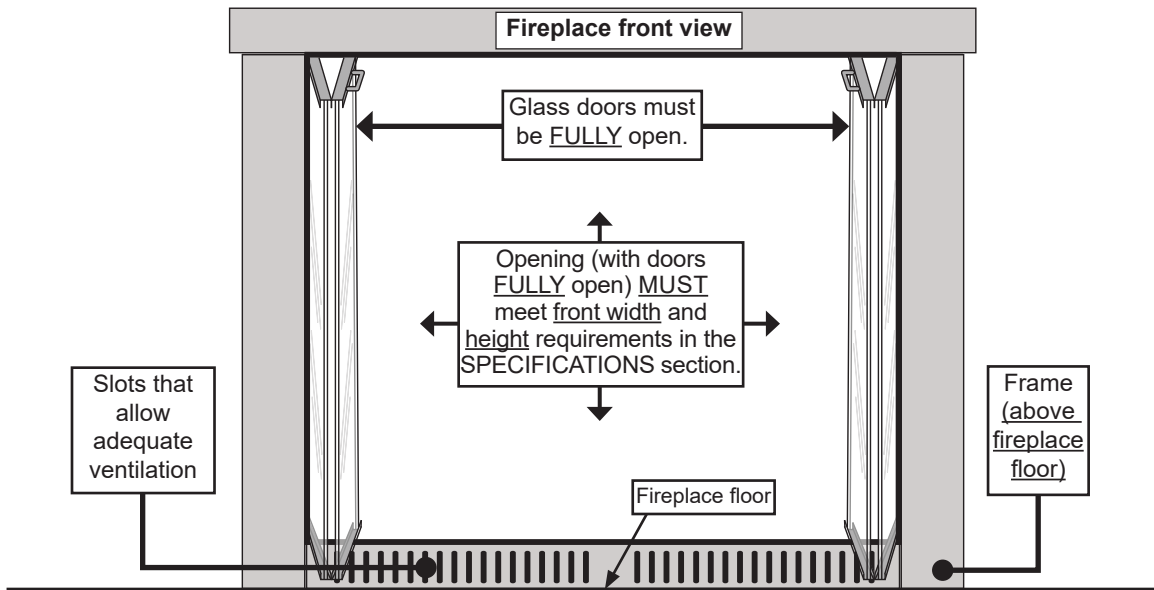

Fig. 10-1 Correct glass-doors frame setup, ventilation, and use (if applicable)
If this burner system is installed in a fireplace with glass doors, and the door frame bottom is greater than  $\frac{3}{4}$ " in height, the frame **MUST** have slots (above the fireplace floor) that allow adequate ventilation. This prevents airflow obstruction (to the fireplace floor). See Fig. 10-1.
**Important:** The opening (with doors fully open) **MUST** meet the minimum fireplace size front width and height requirements. See the SPECIFICATIONS section and Fig. 10-1.